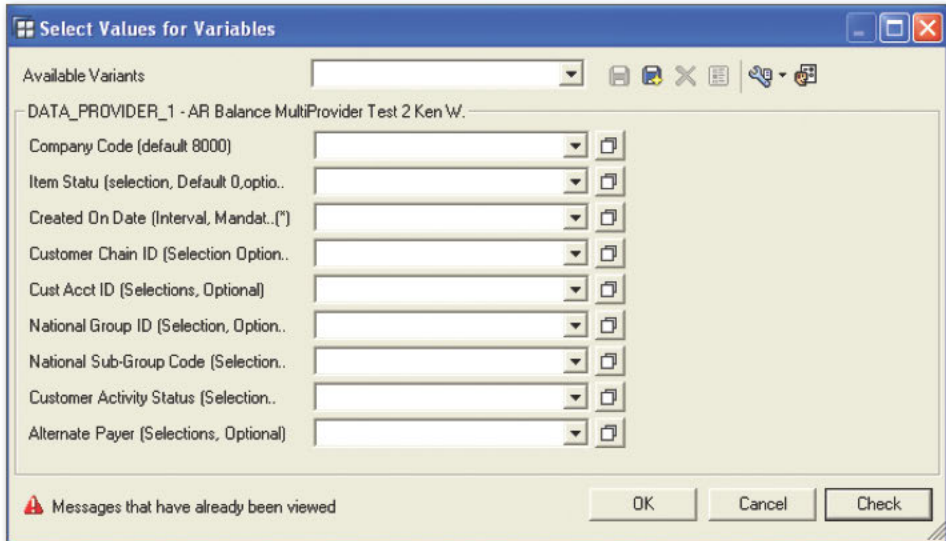

Figure 4 Customer Activity Status Variable from Query 1 Passing the Customer Acct ID to the Cust Acct ID Variable in Query 2
In summary, you've filtered on a customer attribute in Query 1 that passes the CUSTOMER ACCT ID to the second query to return additional details not present in the first query. For example, CUSTOMER ACTIVITY STATUS variable from Query 1 passes the CUSTOMER ACCT ID to the CUST ACCT ID variable in Query 2 (see Figure 4).
4. The following view (Figure 4) demonstrates how the data range reference can be used. The highlighted cell is populated via the statement function, which includes a reference to the DF_GRID data range which is normally coded in Excel as Table!\$G\$3:\$K\$545.
⤴ *Figure 4 The If Function Leveraging Data Range Reference DF_GRID*